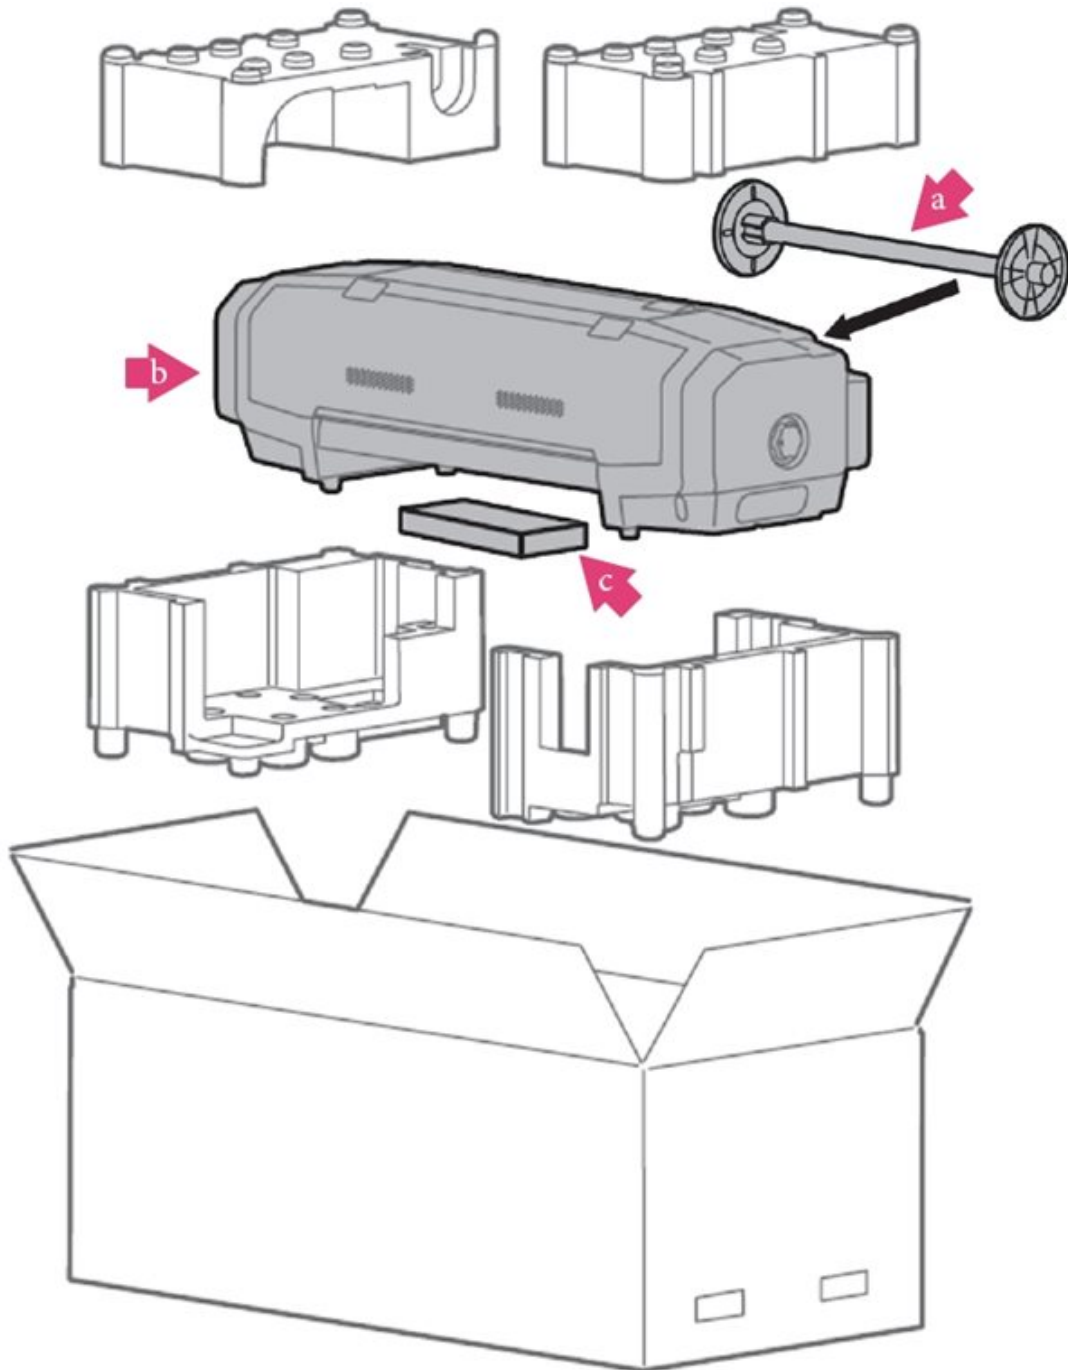

Figure 2
2. Open the printer box and confirm that it contains the following. See Figure 2.